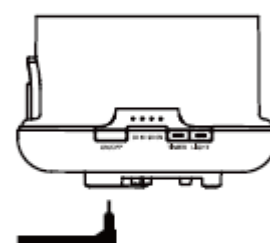

Fig 2
2. Plug the power adapter into the socket at the bottom of the device. **Figure 2 (FIG2)**